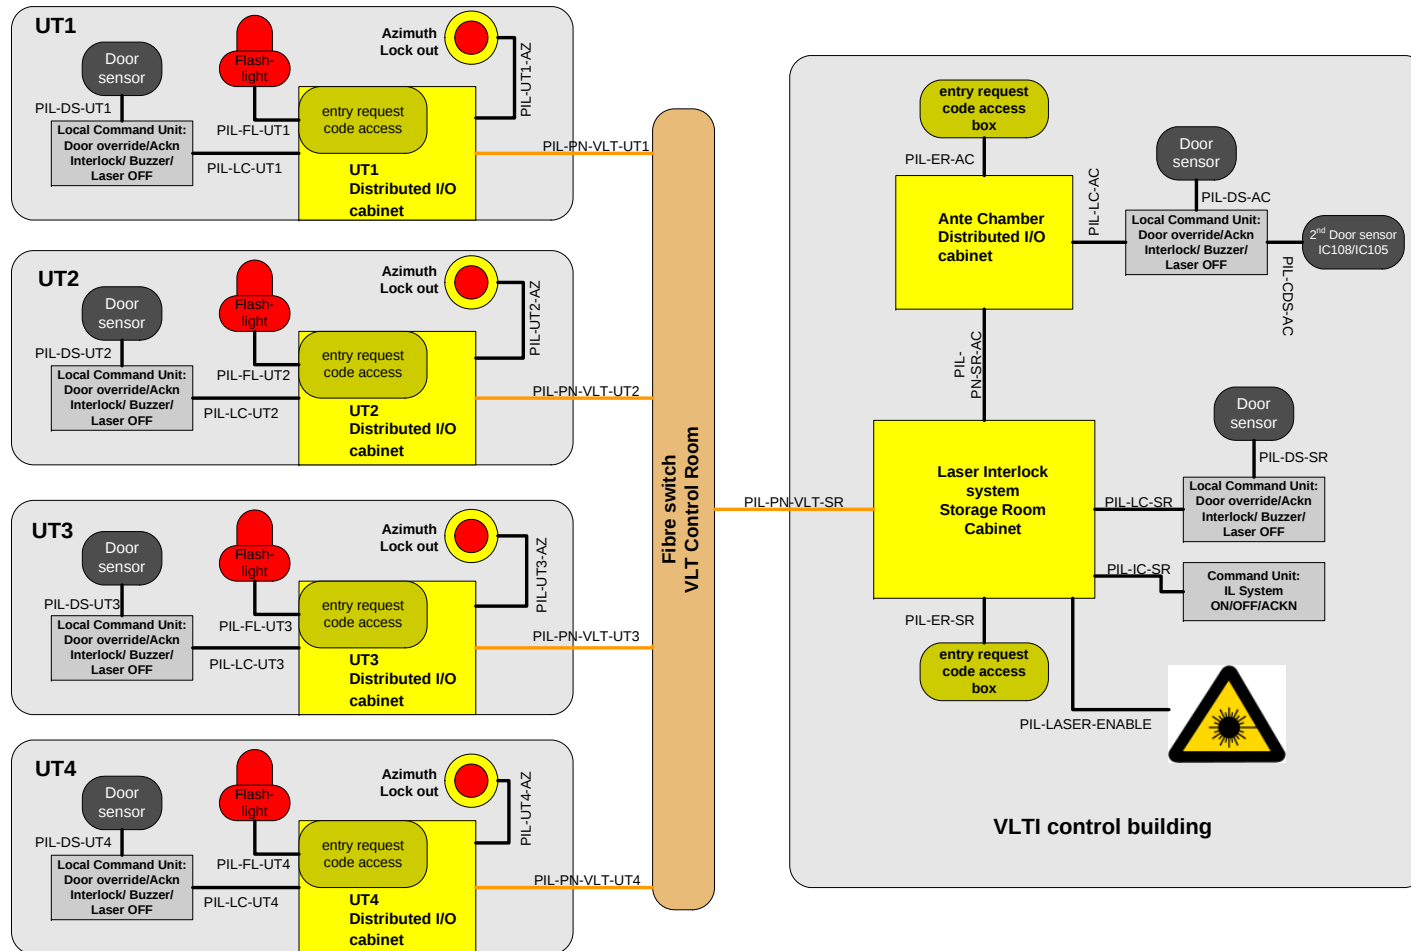

Figure 1 Laser Interlock System overview
- Check the yellow LED on the Phoenix relays (Figure 1) to see if the relays is activated → yellow LED on
- Unplug the Profinet connection from each “Distributed I/O cabinet” (shown in Figure 1)